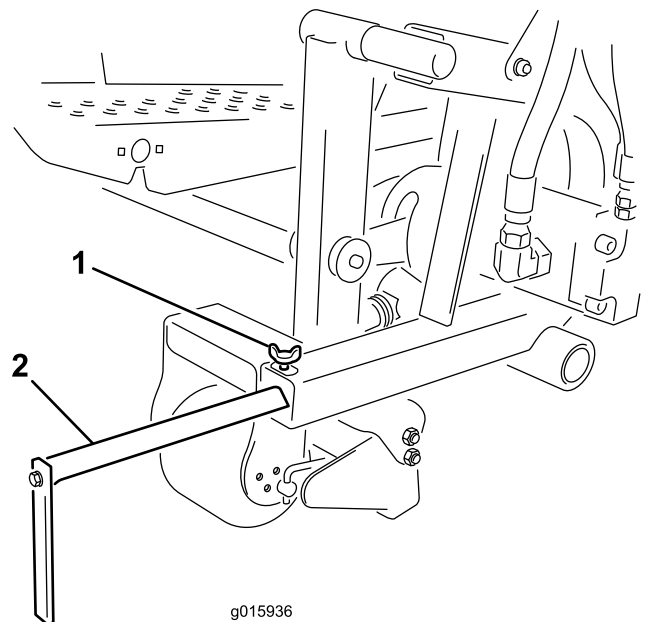

Figure 18
Loosen the adjustment screw and move the alignment guide to the desired position (Figure 18).
1. Loosen the screw and adjust the alignment guide for or aft to the desired position (Figure 18).